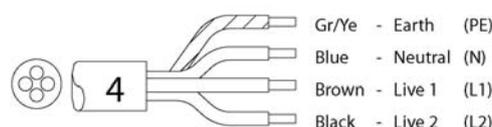

Fig 13
- (fig. 13) 2 N~ 400V (4-core cable).